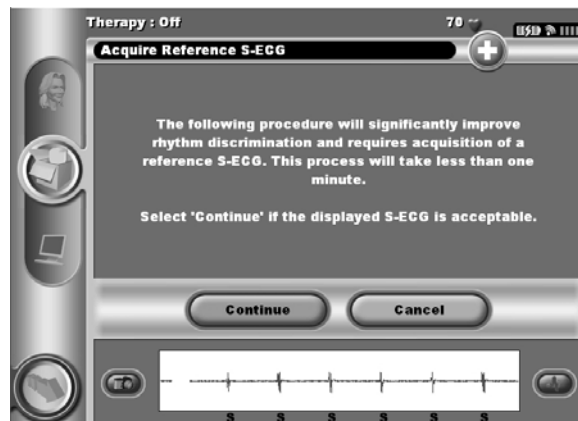

Figure 29: Acquire Reference S-ECG screen
- Following the optional optimization process, the Acquire Reference S-ECG screen is displayed (Figure 29). Select the Continue button to acquire a reference S-ECG.